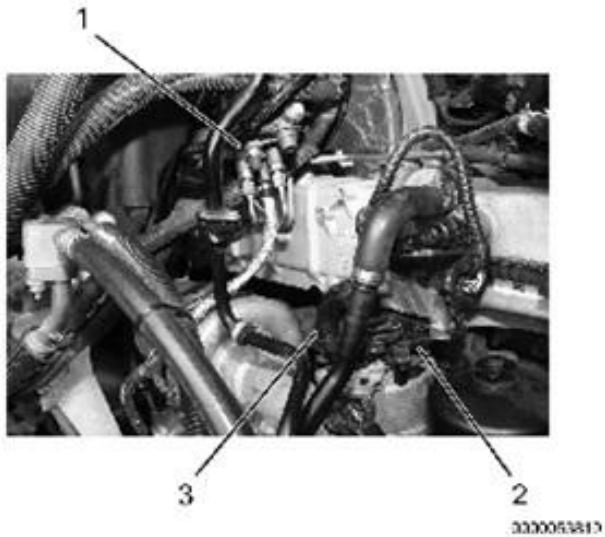

Figure 13. Air Control Valve.
4. Connect CCOS housing sensor connector (Figure 13, Item 2).
5. Connect CCOS housing outlet hose (Figure 13, Item 3) on CCOS housing.
6. Secure ACV (Figure 13, Item 1) with three mounting bolts.